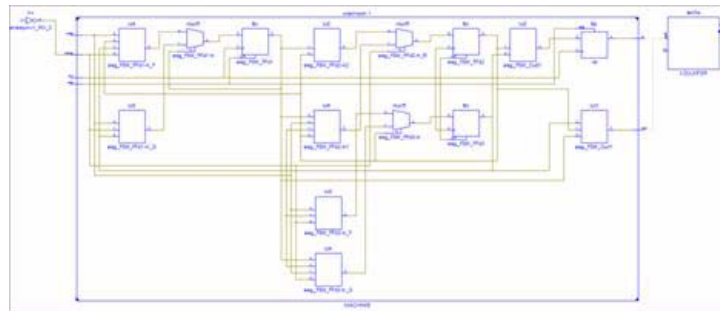

Figure 5-10: View Block Contents
1. Select the **MACHINE** block and press the View Hierarchical Block icon to see its entire contents as shown in Figure 5-10.